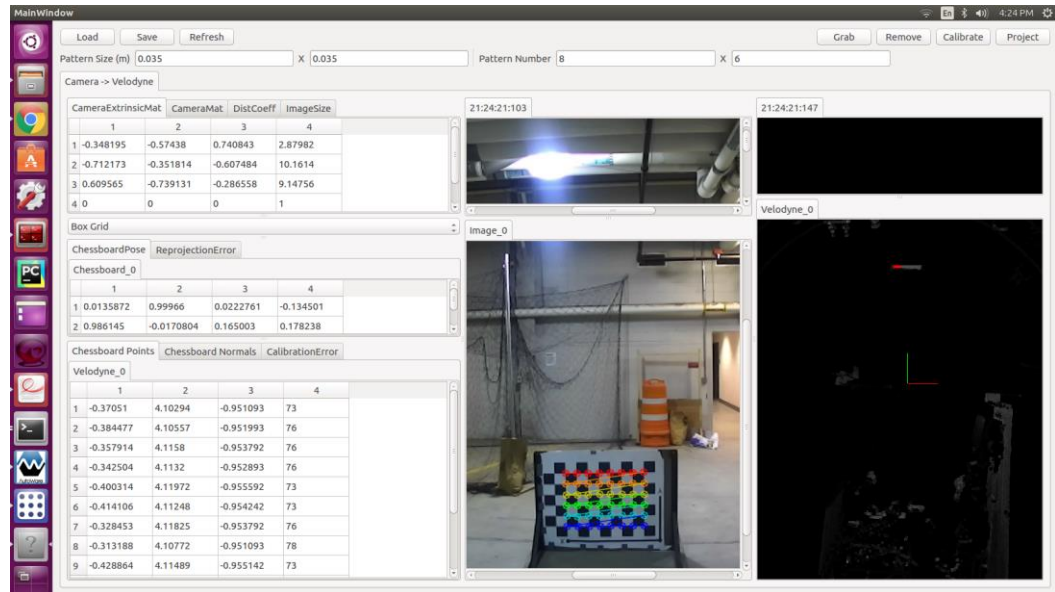

Figure 3: Mapping points from the checkerboard to LIDAR PCL.
- 6) Selecting Points in the checkerboard in the grabbed frame and mapping it to the checkerboard visible on the LIDAR point cloud as shown in fig 3.